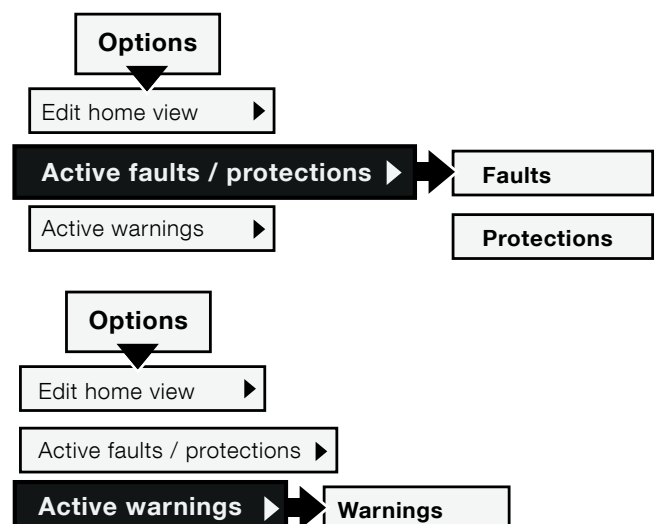

Figure 6.15
**Display signal min as** - Push  "Edit" to select the scaled minimum value in the Home view. Use the Navigation keys to change the value, Push  "Save" to save the value. See ③ in **Figure 6.15**.
**Display signal max as** - Select the scaled maximum value to show in the Home view. Use the Navigation keys to change the value, Push  "Save" to save the value. See ③ in **Figure 6.15**.
**Display unit** - Type in the unit to show in the Home view. You can type a unit with up to 10 characters. Use the Navigation keys to change the characters. Push  "Save" to save the Home view unit name. See ④ in **Figure 6.15**.
For navigation see **Figure 6.15**.